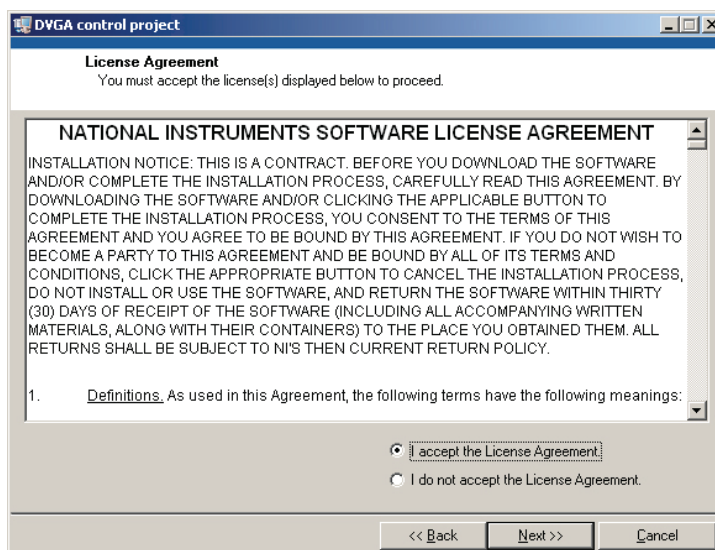

Figure 10. National Instruments License Agreement.
6. The screen in Figure 10 will appear. Read through the National Instruments licensing agreement and select the radio button next to the “I accept the License Agreement” to accept. Then click Next.